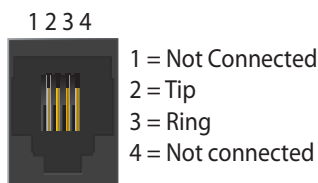

Figure 3. POTS (PHONE) Connection
If POTS cables are not available, use Figure 3 and the following procedure to create the POTS cables:
2. Refer to Figure 3 and connect the twisted-pair Tip (green) and Ring (Red) to the RJ-11 connector using an RJ-11 crimper.